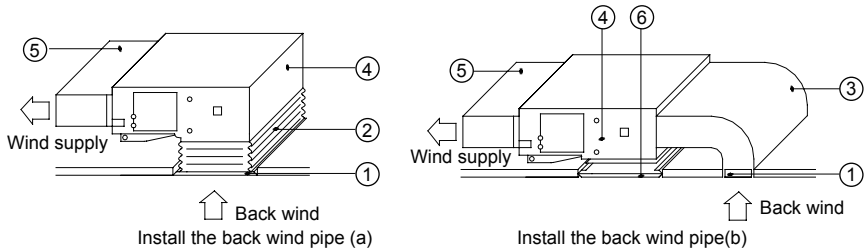

Fig.12
- (2). If the downward return air is desired, just change the place of the rectangular flange and the return air cover plate.
- (3). Connect one end of the return air duct to the return air outlet of the unit by rivets and the other to the return air louver. For the sake of the convenience to freely adjust the height, a cutting of canvas duct will be helpful, which can be reinforced and folded by 8 # iron wire.
- (4). More noise is likely to be produced in the downward return air mode than the backward return air mode, so it is suggestive to install a muffler and a plenum box to minimize the noise.
- (5). The installation method can be chosen with considering the conditions of the building and maintenance etc., as shown in Fig.12.